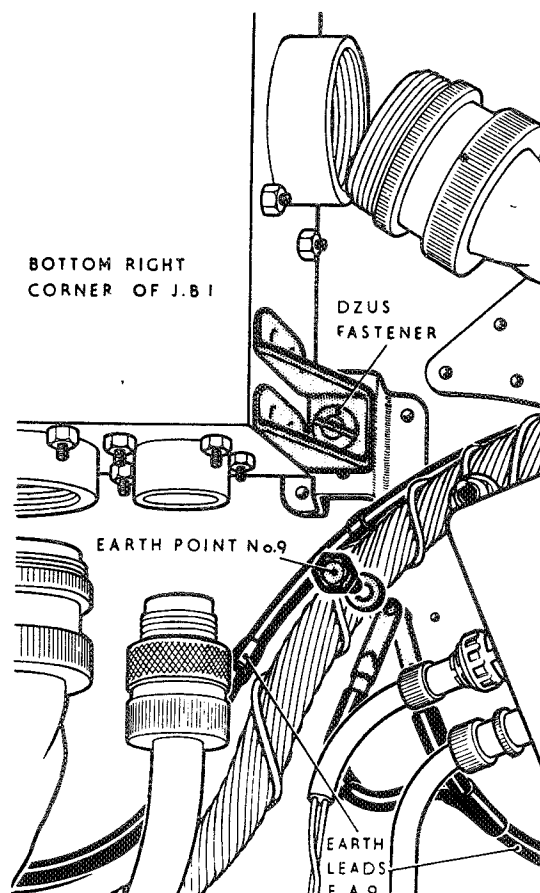

Fig. 1. J.B.1 lower attachments and earth point 9
- (1) Render the aircraft electrically safe, as described in Group A1 of this chapter.
- (2) Remove the engine starter access door.
- (3) Disconnect the earth lead EA9 from earth point 9 located adjacent to the lower right-hand corner of J.B.1 (fig. 1).
- (4) Disconnect all the plugs and sockets on the cable assemblies at J.B.1. Seal off the plugs and sockets with approved caps and covers and stow the cable assemblies away from the box.
- (5) Release the two Dzus fasteners at the lower corners of the box (fig. 1) and lift the box upwards to disengage the two top mountings.
- (6) Lower the box and remove it from the aircraft, complete with earth lead EA9.